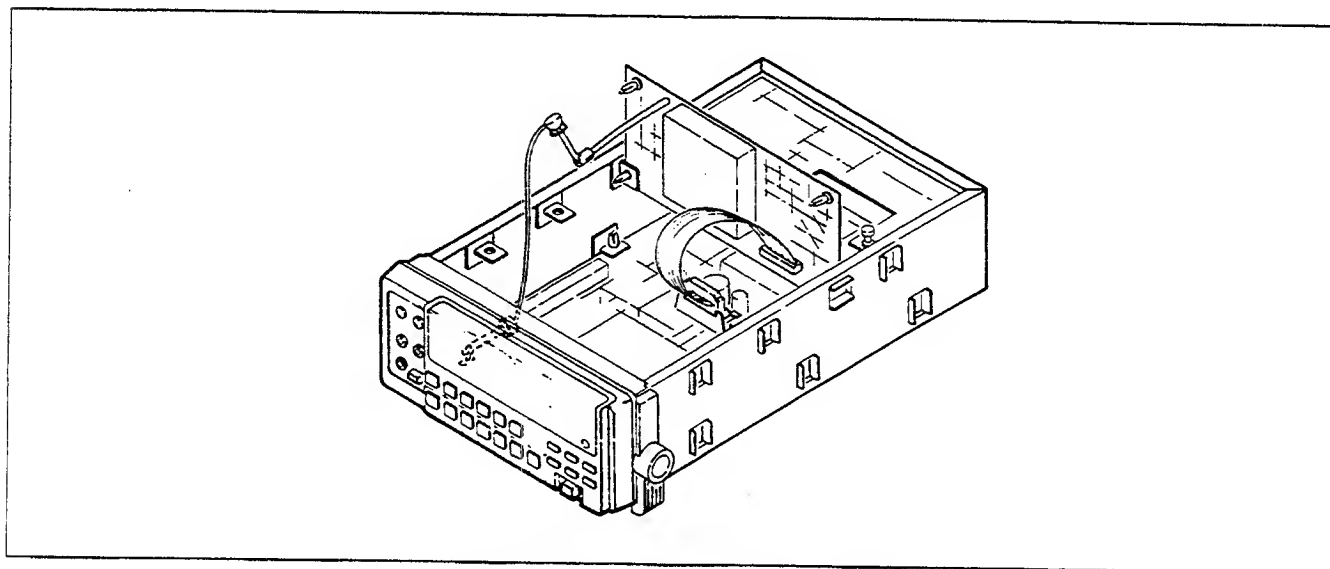

Figure 6-20. Option -09 Service Position
4. Position the True RMS AC PCA vertically as shown in Figure 6-20 and latch it in place by pressing the bottom two nylon latches into the specially provided mounting supports on the chassis.